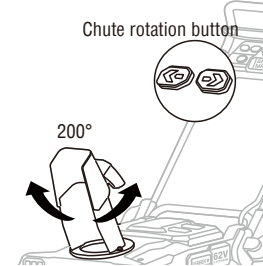

Fig.10
The direction of snow removal can be adjusted up to 200° by pressing the chute rotation button. (Fig.10)
1. Press and hold the chute rotation button on the left from the view of the operator's position, the snow discharge guide turns to the left. (Fig.10)
2. Press and hold the chute rotation button on the right from the view of the operator's position, the snow discharge guide turns to the right. (Fig.10)